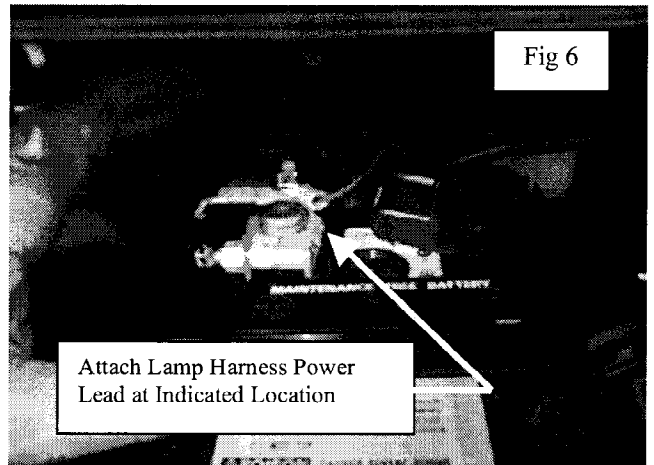

Fig 6
7. Attach lamp harness power lead to positive terminal on battery. See Fig 6